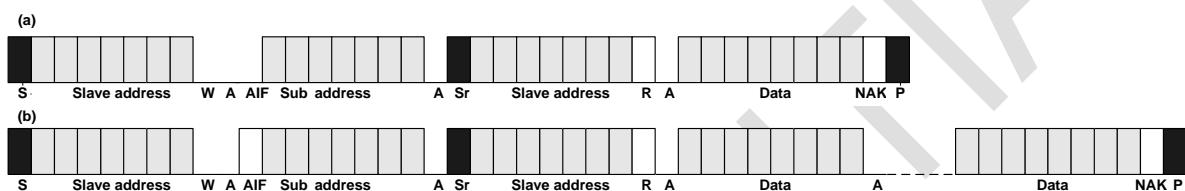
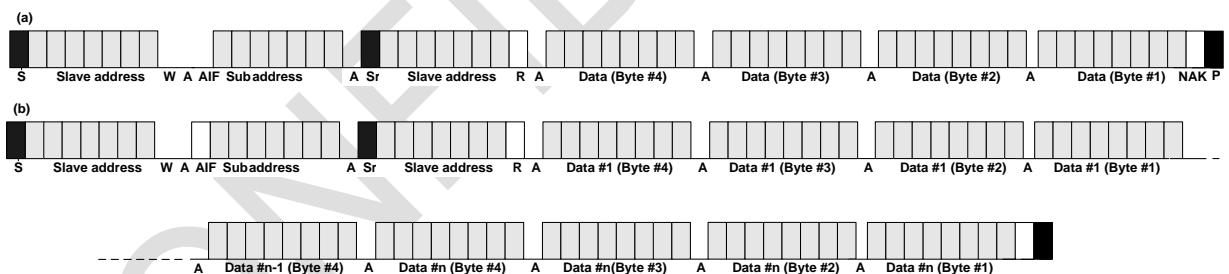

Figure 8. Single Byte Read Mode Sequence
Figure 9. Quad Byte Read Mode Sequence
**Figure 8-(a)** represents single byte reading operation from the NTP8204G. To read data from the NTP8204G, generate start condition to start transfer. After then, send “slave address” with write mode flag and send the register address(sub address). By regenerating start condition (Sr) again and transferring “slave address” with read mode flag, reading operation begins. The NTP8204G will generate data on SDA signal synchronizing with serial clocks on the SCL. Because the SDA signal generated from the NTP8204G, the master device must generate ACK on 9th slot to confirm that the master received read 1 byte successfully. However, if this is just one byte reading operation, NAK (not acknowledged) signal must be generated. Then stop condition must be generated to end transfer. When AIF set to high on sub address like **Figure 8-(b)**, data will be read continuously with register addresses which are increased from initial “sub address” for every byte. To continue reading operation in this case, the master must generate ACK signal on every 9th slot to confirm that master received 1 byte successfully. Otherwise, reading operation will be terminated. To end address auto incrementing reading operation, generate NAK on 9th slot and generate stop condition.
**Figure 9** represents quad byte reading operation. The difference between quad byte reading operation and single byte reading operation is only the size of receiving data. So, after sending “Sub address”, 4 sequential bytes must be received from the MSB to the LSB sequence.
The type presented on **Figure 9-(b)** is quad byte read operation under address auto increment mode, AIF function. Please compare the data receive size between **Figure 8** and **Figure 9**.